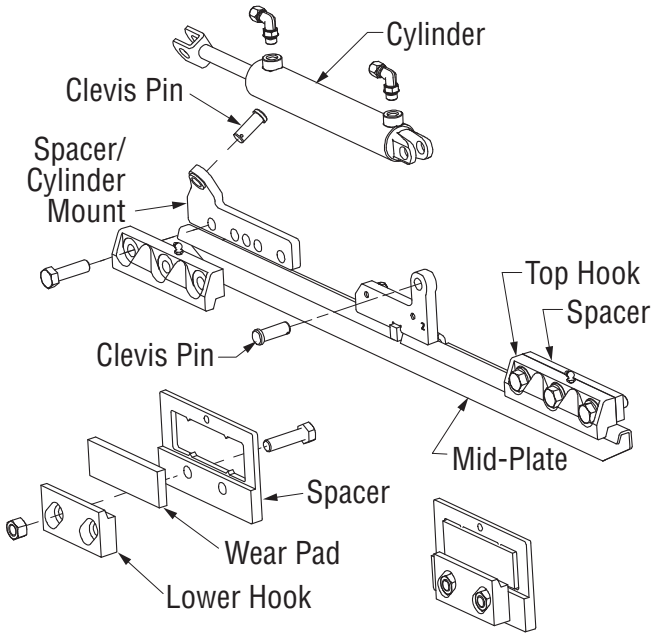

Figure 6-15, Mounting Replacement
4. To replace wear pads or mounting hooks, remove old hooks. Clean any wear surfaces on the attachment. Apply blue Loc-Tite to new mounting hardware and torque to 155 ft-lbs. (Figure 6-15)